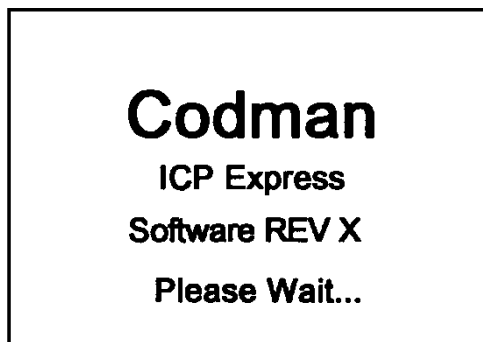

Figure 22
- Introductory Screen, per Figure 22, displayed for approximately 10 seconds.